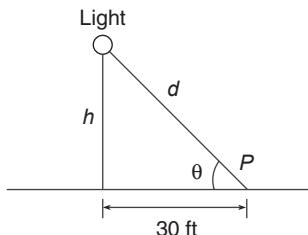

Figure P23
- 23.* A certain spherical street lamp emits light in all directions. It is mounted on a pole of height h (see Figure P23). The brightness B at point P on the sidewalk is directly proportional to $\sin \theta$ and inversely proportional to the square of the distance d from the light to the point. Thus